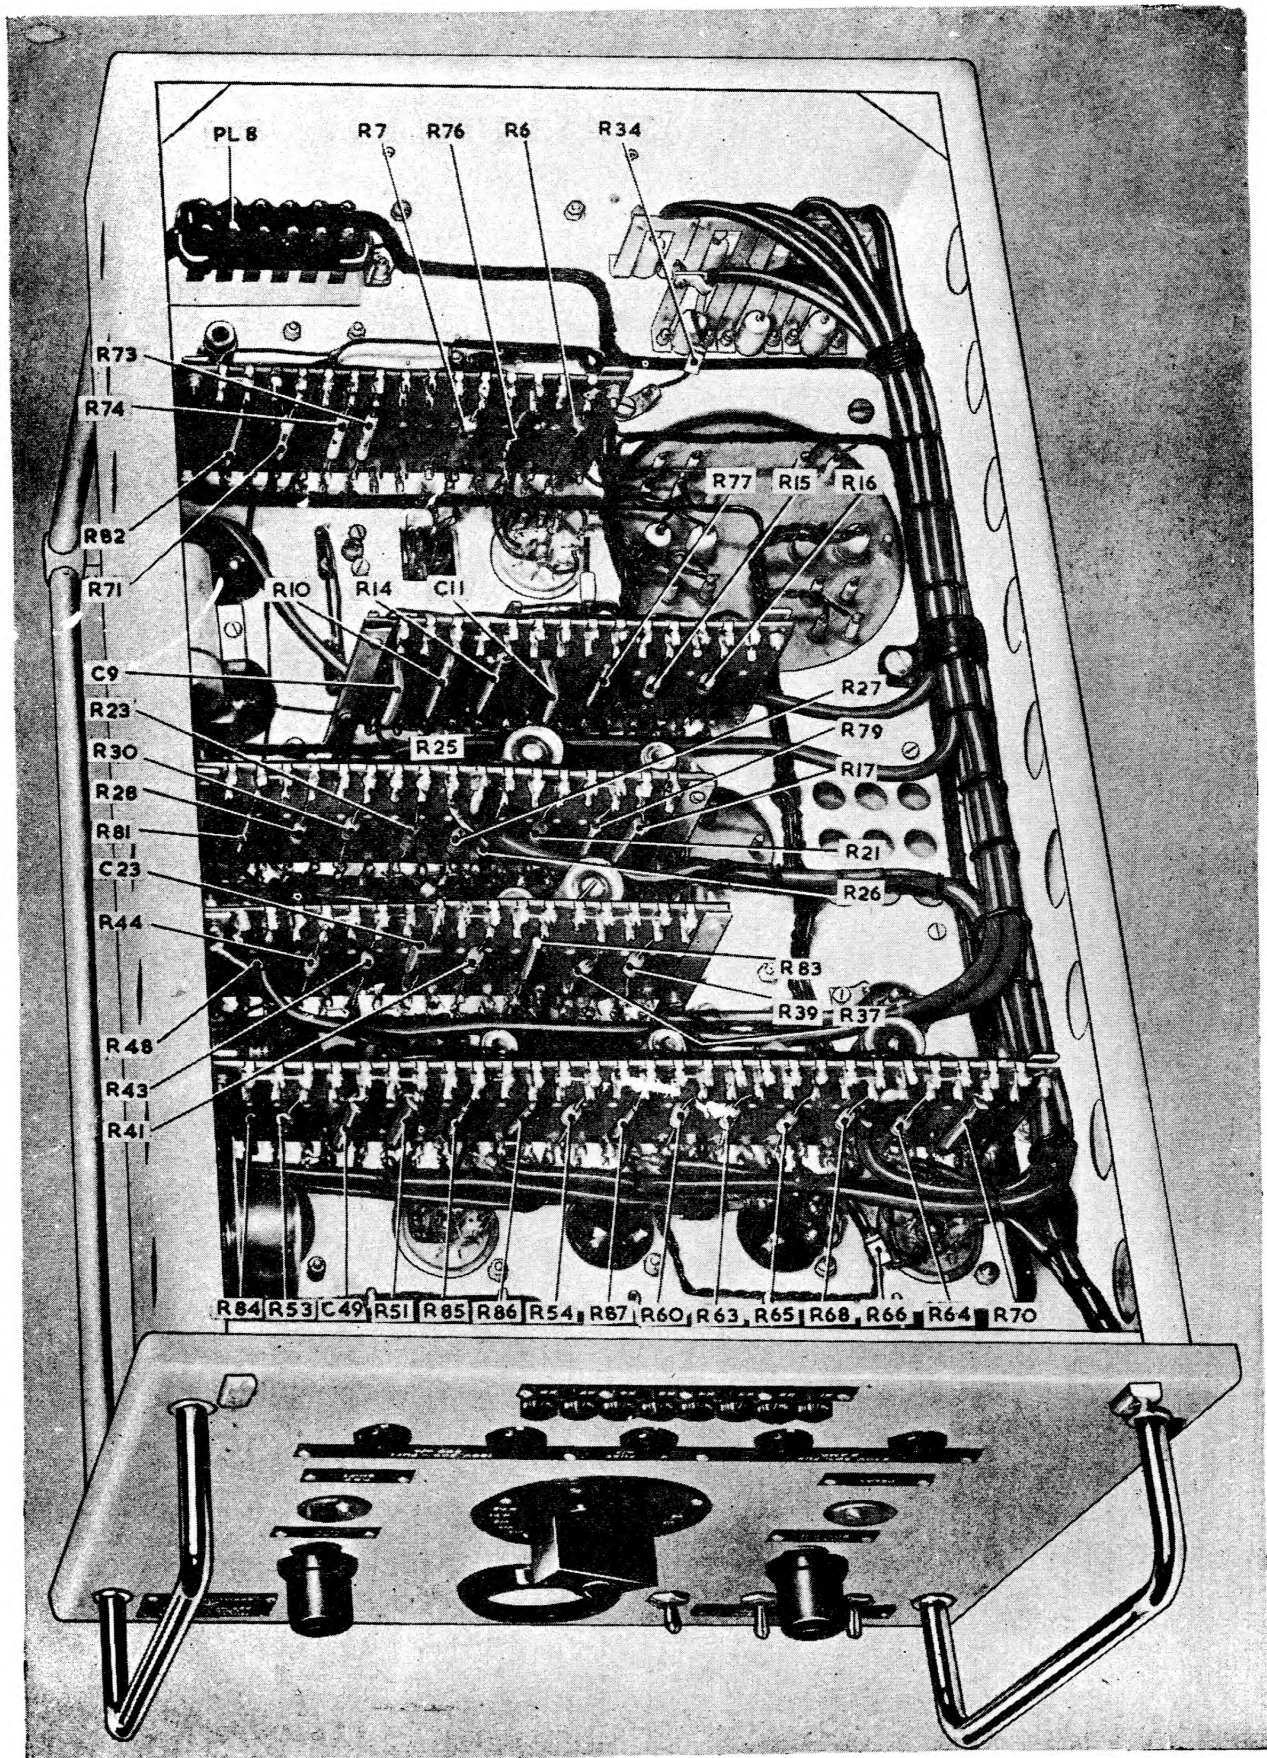
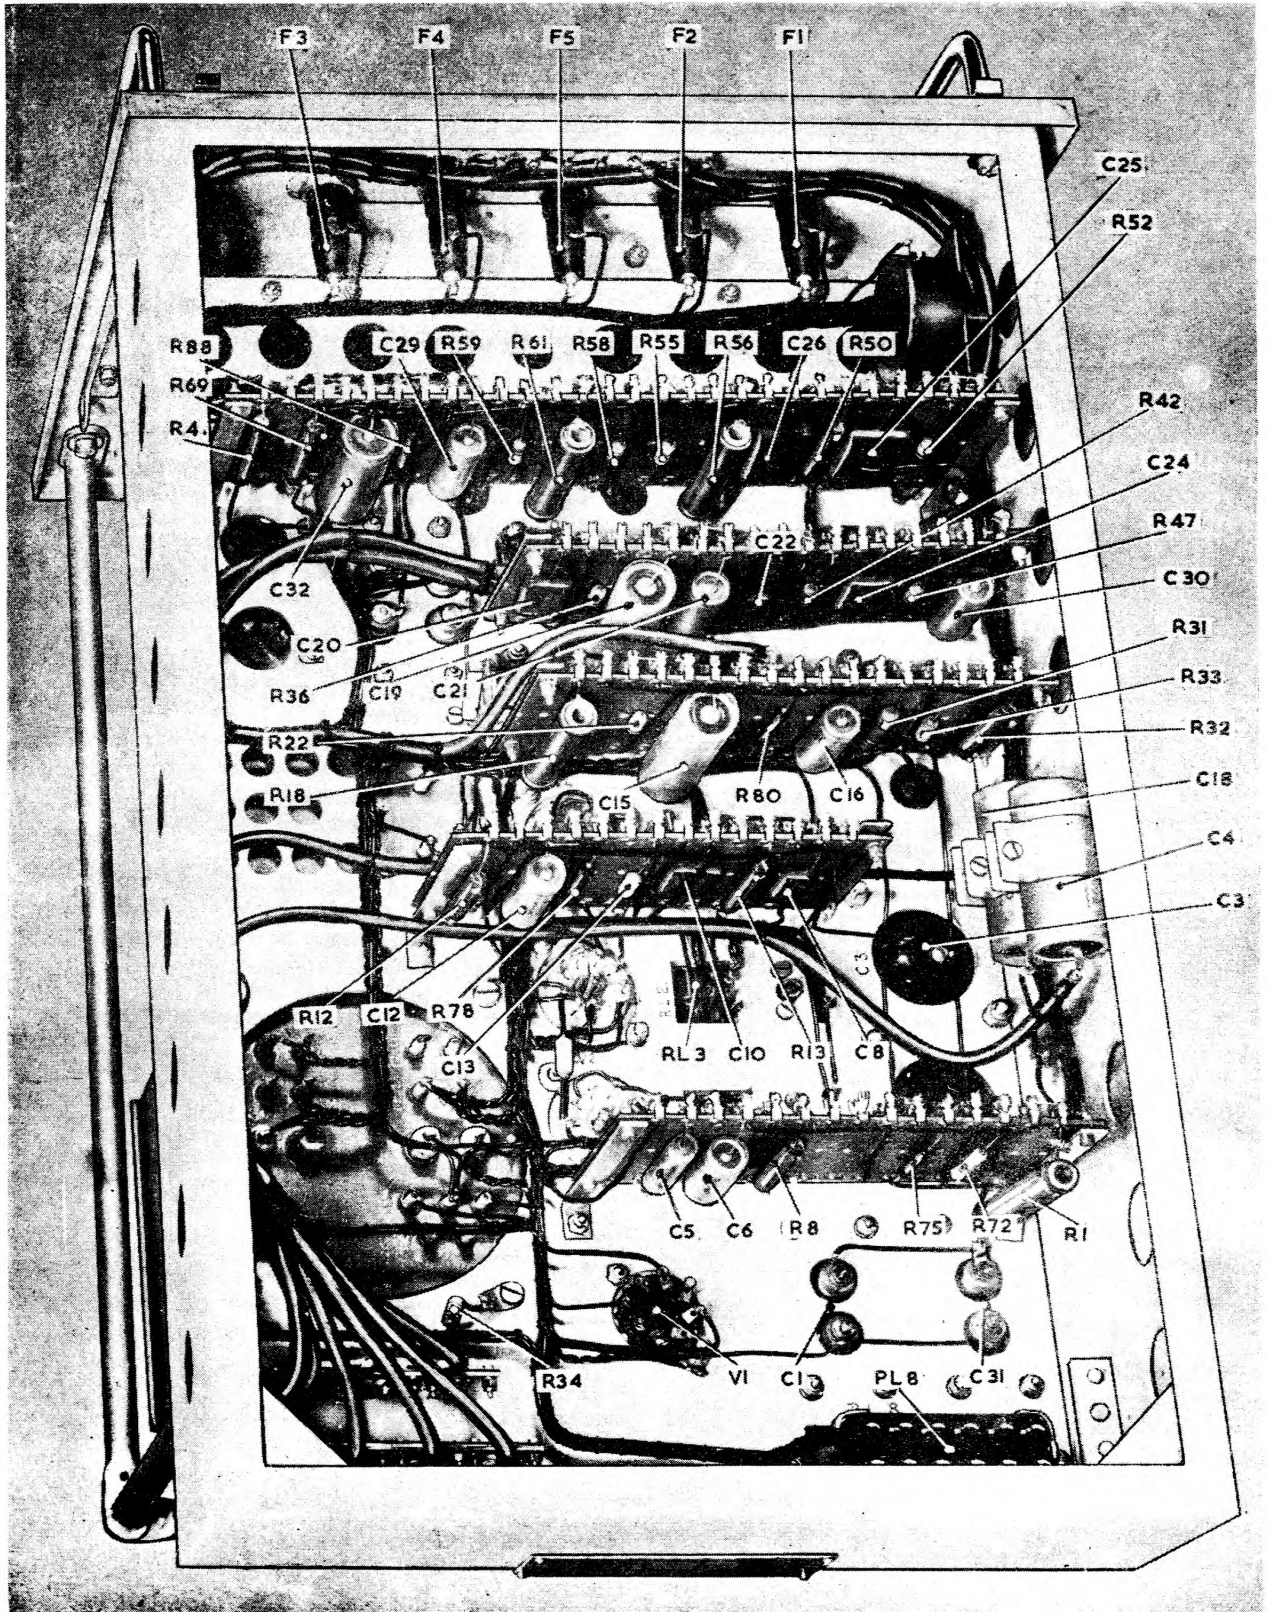
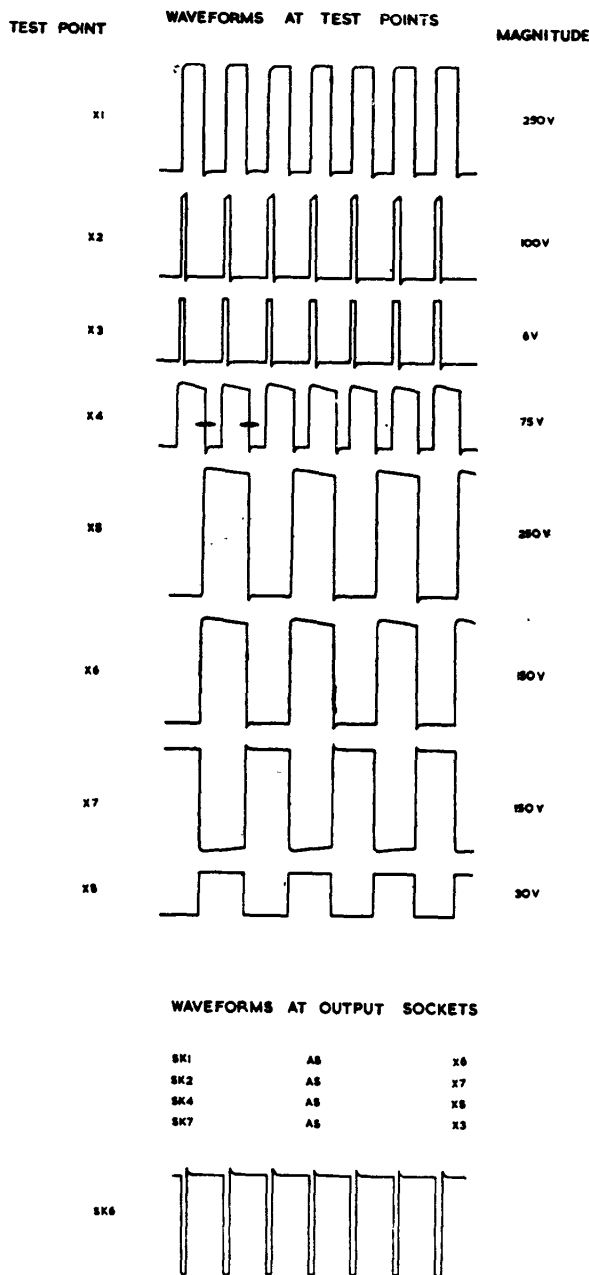

Fig. 4. Multivibrator unit Type 52, underside of chassis (I)
Fig. 5. Multivibrator unit Type 52, underside of chassis (2)
Fig. 6. Multivibrator unit Type 52, waveforms
21. A plan view of the unit is shown in fig. 3. Two underside views of the chassis are given in fig. 4 and fig. 5. Waveforms at the test points and output sockets are given in fig. 6 and a complete circuit of the unit is fig. 7.